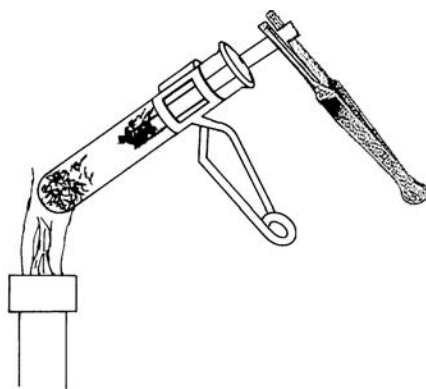

Figure 7.2
- Heat test tube no. 1 with the hottest part of the flame of the Bunsen burner as shown in Figure 7.2. Keep the test tube holder at the upper end of the test tube all the time. While test tube no. 1 is being
heated, thrust a glowing wooden splint about halfway down the test tube (Figure 7.2). (The splint should not be burning but should be glowing with embers after the flame has been blown out. *Do not drop the glowing splint into the hot KIO_3 .* Note that the wooden splint is held by forceps.) Oxygen supports combustion. The glowing splint should glow brighter or may burst into flame in the presence of oxygen. Record what happens to the glowing splint (6).
- d. Add 5 mL of distilled water to each of the three test tubes and mix thoroughly to ensure that the solids are completely dissolved. Add 10 drops of 0.1 M $AgNO_3$ solution to each test tube. Observe what happens to each solution. Record the colors of the precipitates and write complete balanced equations for the reactions taking place in test tube no. 2 and test tube no. 3 (7). (The KIO_3 and KI solids can be distinguished by the test results with $AgNO_3$; AgI is a yellow precipitate; $AgIO_3$ is a white precipitate.)
- e. Does a precipitate result when the residue in test tube no. 1 is mixed with $AgNO_3$ solution (8)? What is the color of the precipitate? What compound is present in test tube no. 1 after heating KIO_3 (9)?
- f. Write a complete balanced equation for the decomposition reaction (10).